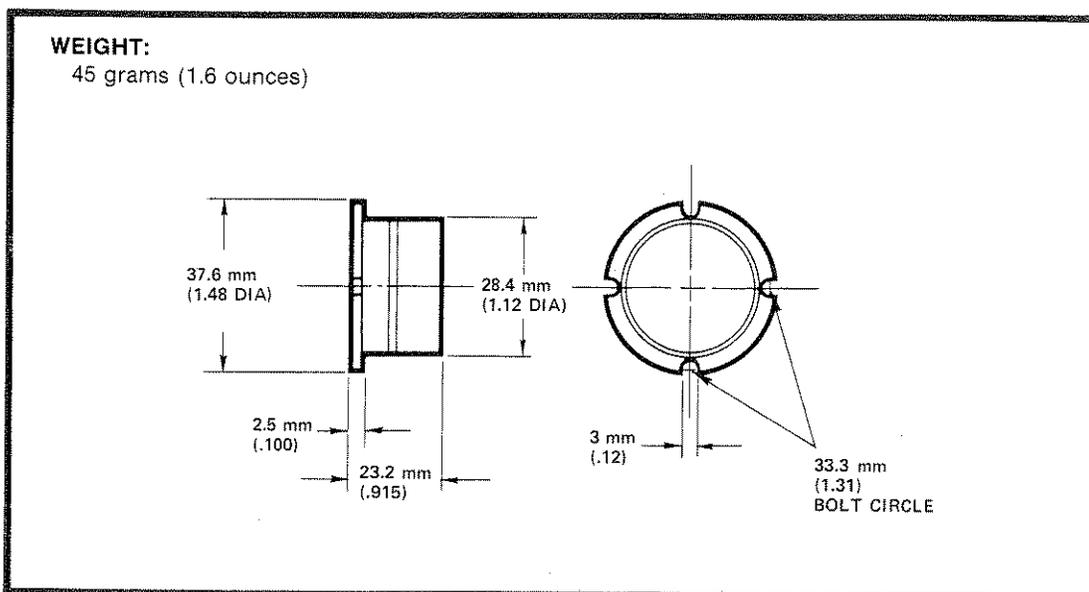

Figure 2-20. 10703A Retroreflector Specifications
- 10703A Retroreflector Specifications, see *Figure 2-20*.